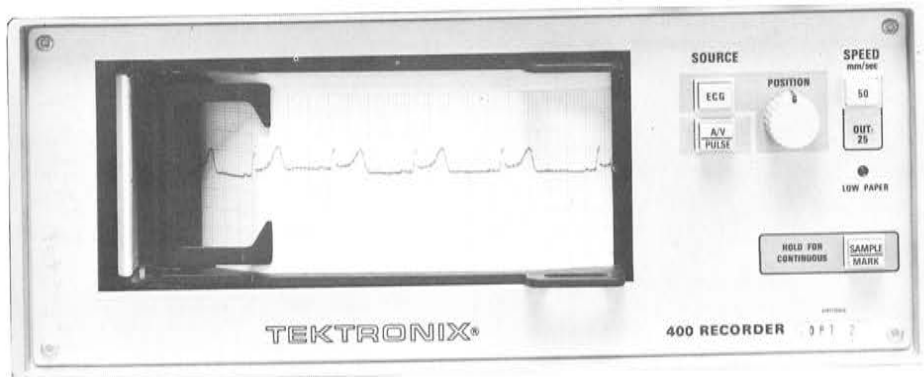

Fig. 6 An example of a TEKTRONIX 400-Series Recorder making a permanent record of a patient's ECG.
Oscilloscopes, from the simplest to the most complex, provide us with two basic pieces of information: "how much" and "how long." They provide this information in the form of a graph. We're probably all familiar with graphs of the type produced by strip-chart recorders like the one in Figure 6. These graphs are very similar to those produced by oscilloscopes since they plot both "how much" (amplitude) on the vertical (Y) axis, and "how long" (time) on the horizontal (X) axis.